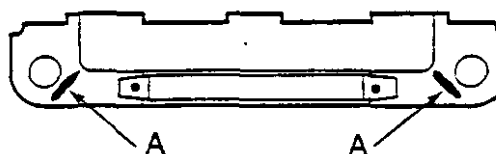

Figure 10. POSITION OF SEALANT
See Figure 10.
1. Put a thin strip of Loctite Superfast Flange Sealant 573 on each side of one part of the retainer. See Figure 10.